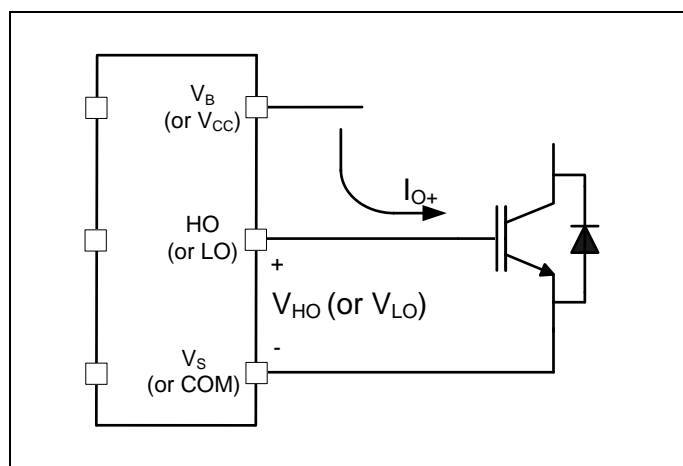

Figure 4 HVIC Sourcing current
The 2ED2181 (4) S06F (J) HVIC is designed to drive MOSFET or IGBT power devices. Figures 4 and 5 illustrate several parameters associated with the gate drive functionality of the HVIC. The output current of the HVIC, used to drive the gate of the power switch, is defined as I_O . The voltage that drives the gate of the external power switch is defined as V_{HO} for the high-side power switch and V_{LO} for the low-side power switch; this parameter is sometimes generically called V_{OUT} and in this case does not differentiate between the high-side or low-side output voltage.